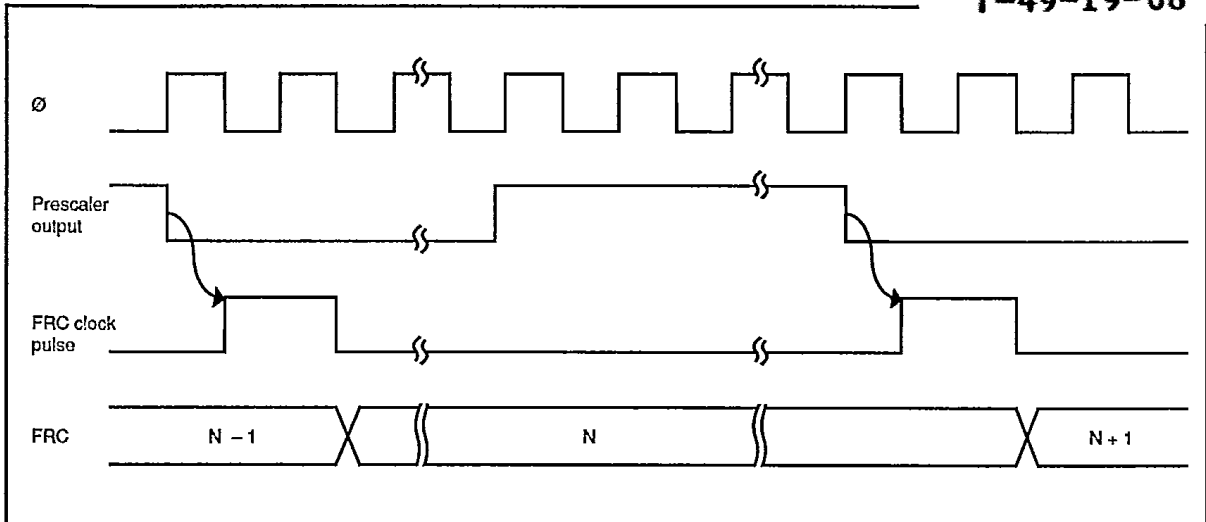

Figure 7-4. Increment Timing for Internal Clock Source
**(1) Internal Clock Sources:** Can be selected by the CKS1 and CKS0 bits in the TCR. Internal clock sources are created by dividing the system clock ( $\emptyset$ ). Three internal clock sources are available:  $\emptyset/2$ ,  $\emptyset/8$ , and  $\emptyset/32$ . Figure 7-4 shows the increment timing.